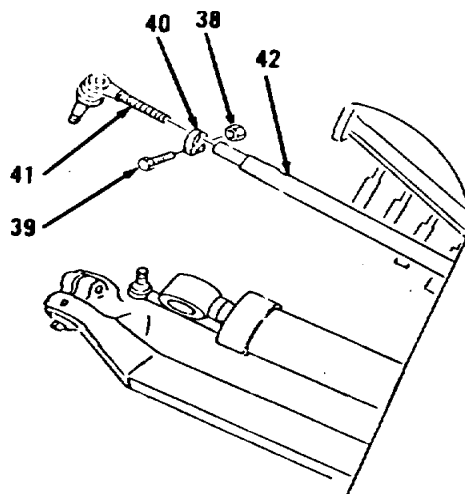

Figure 5-80.
29. Remove seal (31), preformed packing (32) and seal (33). Discard preformed packing (32).
30. Remove plug (34), gasket (35) and plug (36) from housing (37).
31. Remove lock nut (38), bolt (39) and clamp (40, Figure 5-80).
32. Remove socket assembly (41) from steering tie rod (42).